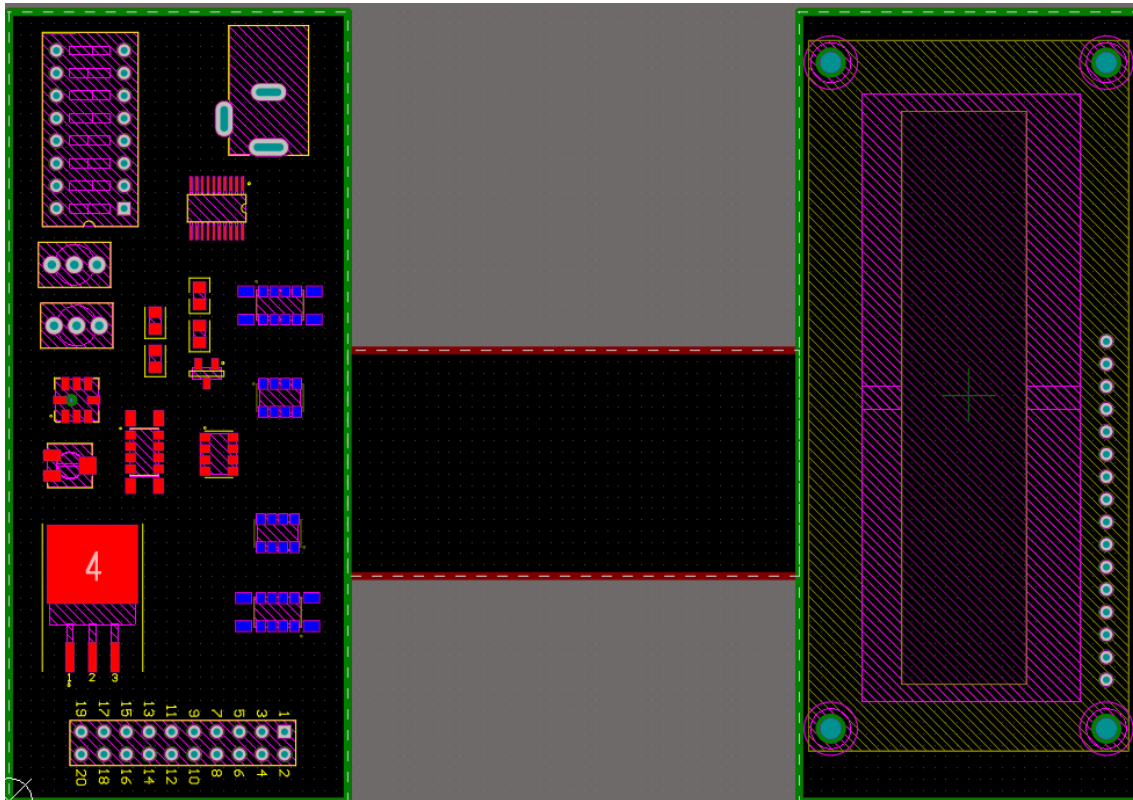

Figure 10. Components position on Rigid1 (top side) and Rigid2 (bottom side)
31. Place the remaining components on the top side of the Rigid Layer Stack Region - Left board, as in the example shown in Figure 10.